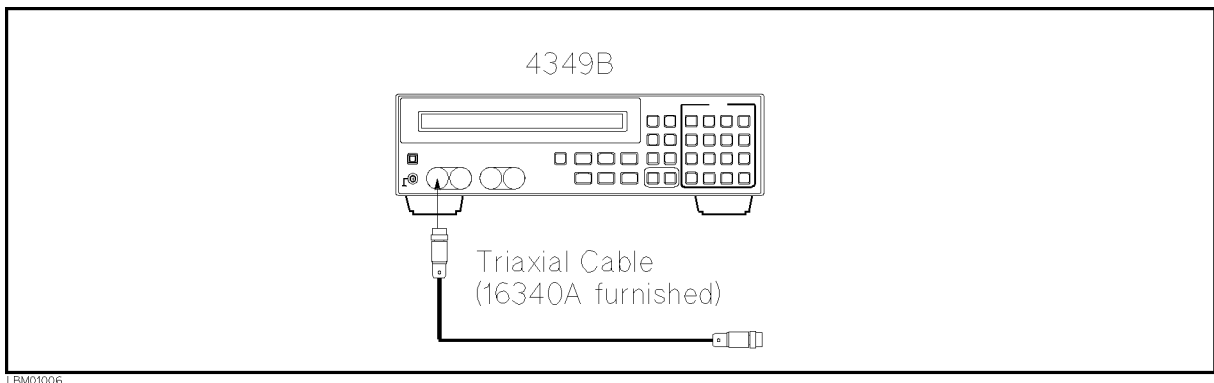

Figure 9-7. Resistance Measurement Accuracy Test Setup
5. Set up the equipment as shown in Figure 9-7.